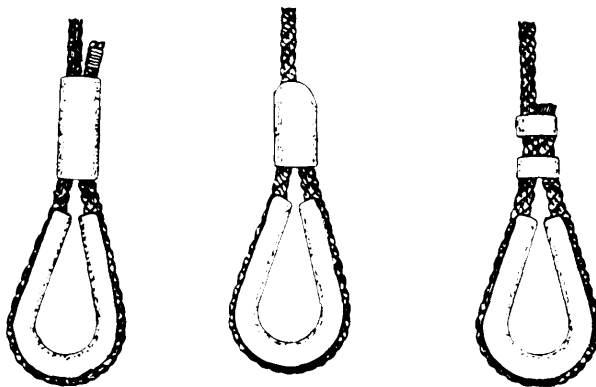

Figure 13-25.-Swaged connections.
**Swaging** makes an efficient and permanent attachment for wire rope, as shown in figure 13-25. A swaged connection is made by compressing a steel sleeve over the rope by using a hydraulic press. When the connection is made correctly, it provides 100-percent capacity of the wire rope.